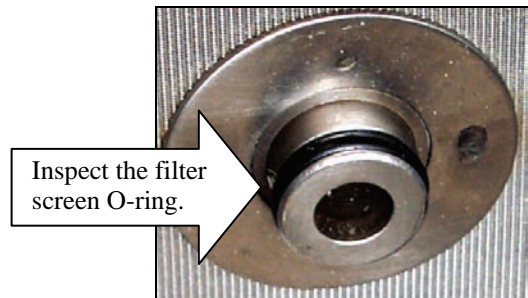

Figure 6
- Inspect the fitting on the bottom of the Magnasol filter assembly to ensure that the O-ring is present and in good condition. (See Figure 6)